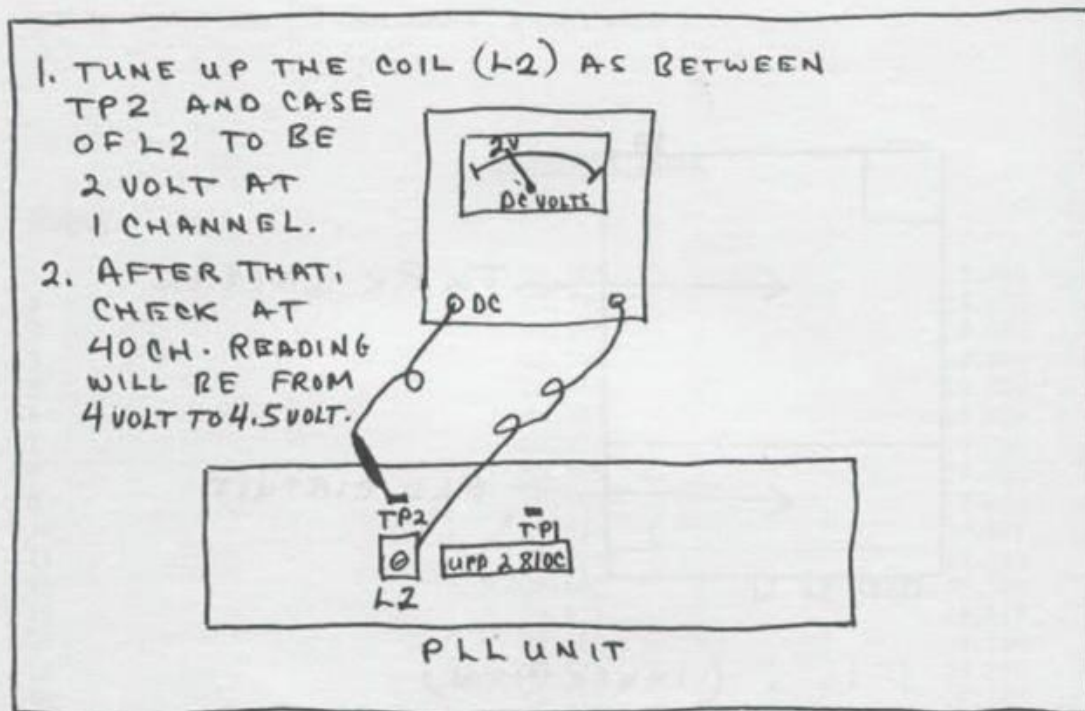

FIG 3 (TUNE UP PLL UNIT) NO1
1. Prepare the tester and connect it between test point 2 (TP2) and any minus (-) ground (earth). Next, set to channel 1 position - the tester range should be 2 - 10 Volts (DC).
"L2" should be tuned up as the tester indicates 2 Volts. As you are tuning up the coil, the channels should be checked individually 1 thru 40 so that as the coil is being tuned, the tester will show a balanced change from 2 Volts to about 4.5 Volts (DC) on each of the channels. (see figure 3).
- 1.1 Re-tune the coils, L208 and L209 and turn VR10 shown as fig. 3. Then you get 5 to 6W.
Turn VR1 shown as fig. 3.